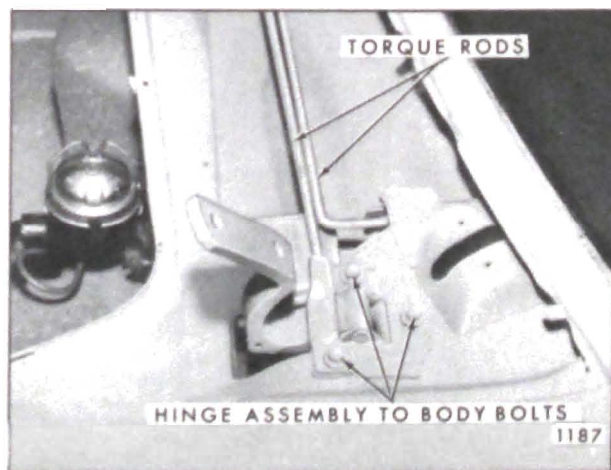

Fig. 5-18—Front Compartment Lid Hinge Removal
1. Adjustments to the front compartment lid may be made forward or rearward and side to side in body opening by loosening hinge to upper shroud attaching bolts at each hinge. Adjust hinge as required and secure bolts (See Fig. 5-18).